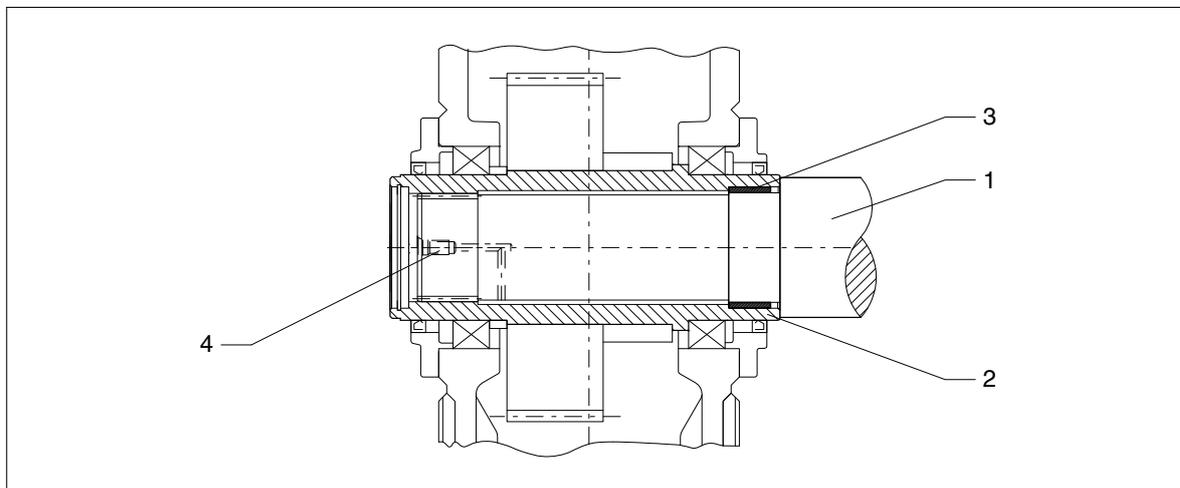

Fig. 37: Hollow shaft with internal spline, preparation
To facilitate demounting (see also item 6.6.3), we recommend providing a connection for pressure oil on the end of the driven machine shaft. For this a hole must be drilled through to the hollow shaft bore (see figure 37). This connection may also be used for supplying rust-releasing agent.